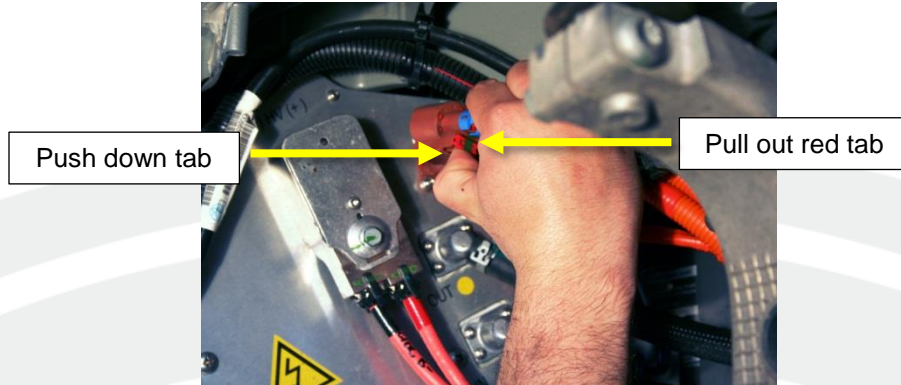

Figure 4 (PTC cabin air heater connector shown)
1. Release the connector from the DCDC converter by first pulling the red tab out, and then pushing down on the connector tab to unlock it (Figure 4).